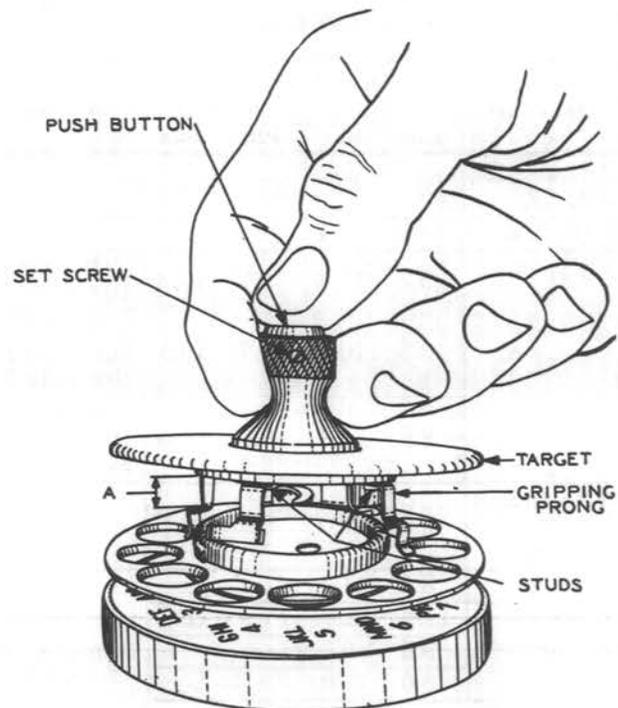

Fig. 10 — Method of Placing Stroboscope Target on Dial
(g) Mount the target on the dial to be tested by grasping the knurled knob between the second and third fingers, and with the thumb, fully depress the pushbutton on the knob to expand the prongs, as shown in Fig. 10, to avoid marring the finish of the dial. Partially insert the notched stud and prong into the 0 hole of the fingerwheel, holding the target at an angle so that the extreme outer edge of the stud first engages the edge of the 0 hole and steadies the target and the remaining three prongs are above holes 1, 4, and 7. While still depressing the pushbutton, carefully press the target into place so that the prongs engage the holes mentioned above. If the pushbutton binds in its bearing seat, remove the setscrew with the R-1005 jewelers screwdriver and remove the button. Clean the bearing seat with a KS-2423 cloth moistened with KS-7860 petroleum spirits. Remount the button and tighten the setscrew securely. If the gripping prongs bind under the studs, clean the bearing surfaces with petroleum spirits applied with a clean toothpick. Do not use the same toothpick for more than one cleaning operation.
- (1) There is some clearance throughout the rotation of the dial between the gripping prongs of the target and the number plate and number plate clamping ring.
- (2) There is some clearance between the three prongs of the target and the finger stop.
- (3) There is no rotary play between the target and the fingerwheel.
- (4) The target prongs have sufficient tension to hold the target snugly on the dial. (The target prongs will, in general, have sufficient tension to hold the target on the dial if the portion of the prongs designated A in Fig. 10 is at right angles to the base of the target.)